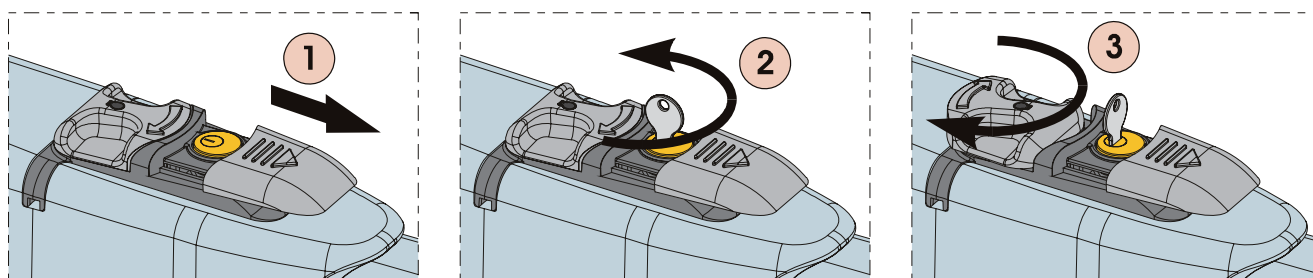

Fig. 21
- 2) Slide the protective cap, Fig.21/1.
- 3) Insert the key and turn it 90°, Fig.21/2.
- 4) To release the operator turn 180° the control lever to the direction indicated by the arrow on the release system, Fig.21/3.